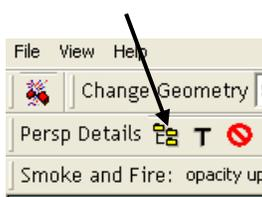

Figure 7-3 Compartment tree browser button location
*Browser* button , shown in Figure 7-3, a new dialog window (shown in Figure 7-4) pops up showing the list of compartments arranged by decks. Section 6.4 introduced the *Compartment Tree Browser* and its usage for hiding